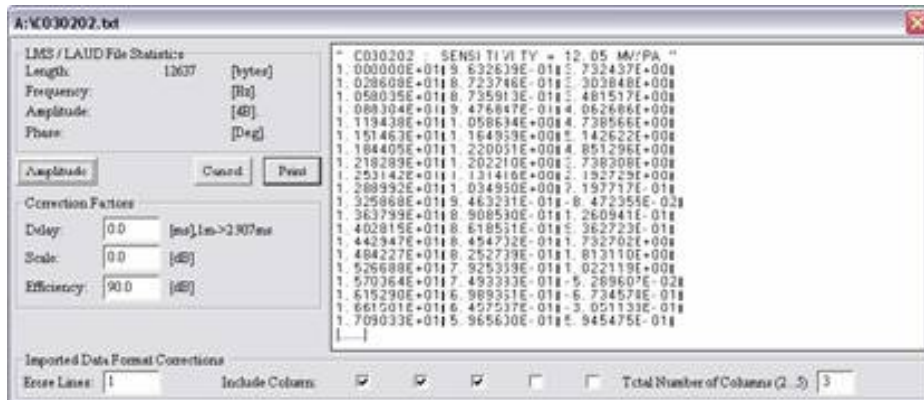

Figure 20. Microphone data displayed in import dialog screen.
- Search for the file containing the calibration data supplied with your microphone and open it. The microphone data should appear in the import dialog screen as shown in Figure 20.
- Examine the data and if any header lines are present enter the number of lines in the header in the *Erase Lines*: slot at the lower left. In the example shown in Figure 20 one header line is present.